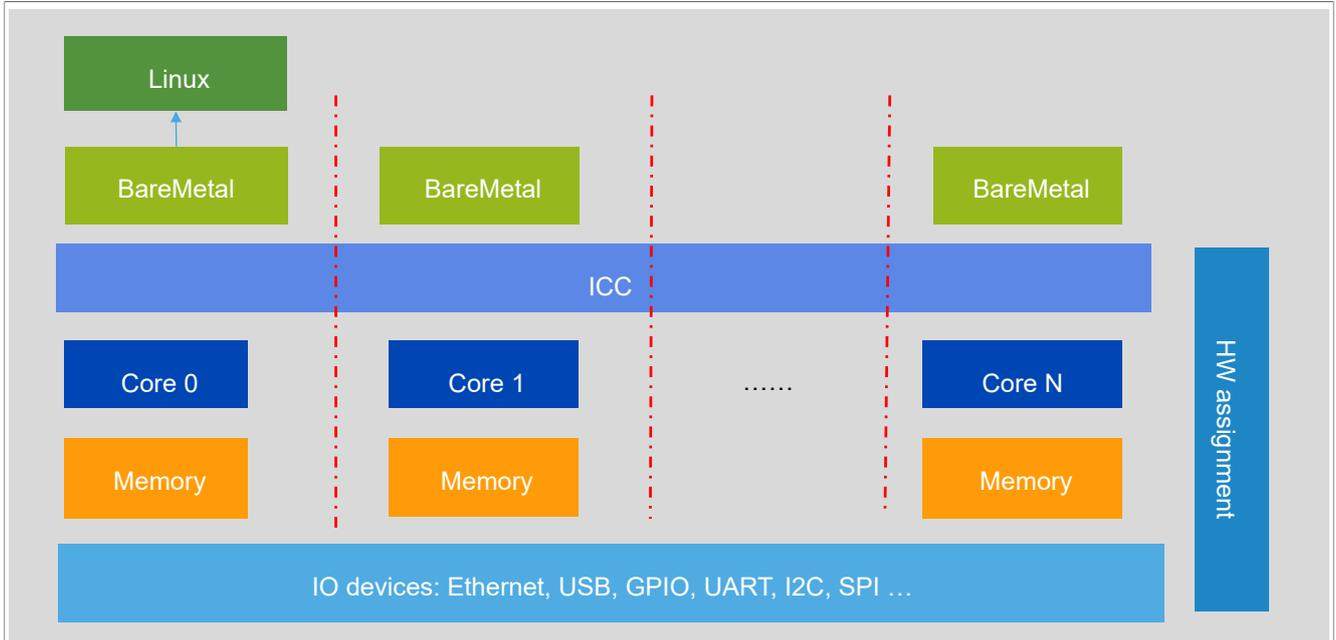

Figure 7. BareMetal Use Case 1
1. Core0 as a primary core runs Linux to manage secondary cores and communicate with the server. Secondary cores run Baremetal application for real-time processing. Refer Figure 7.